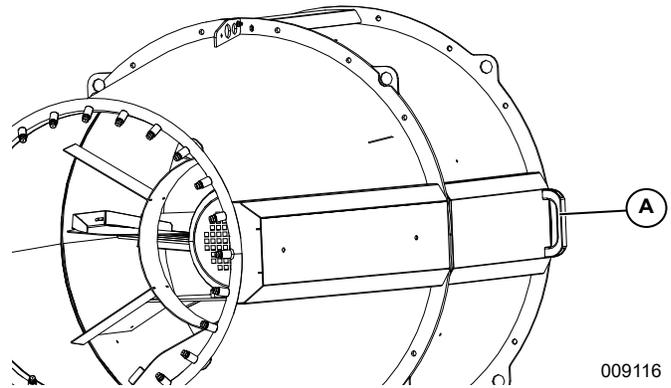

Figure 3-5. Manual rotation
- See **Figure 3-5**. Use handle (A) to rotate blower.